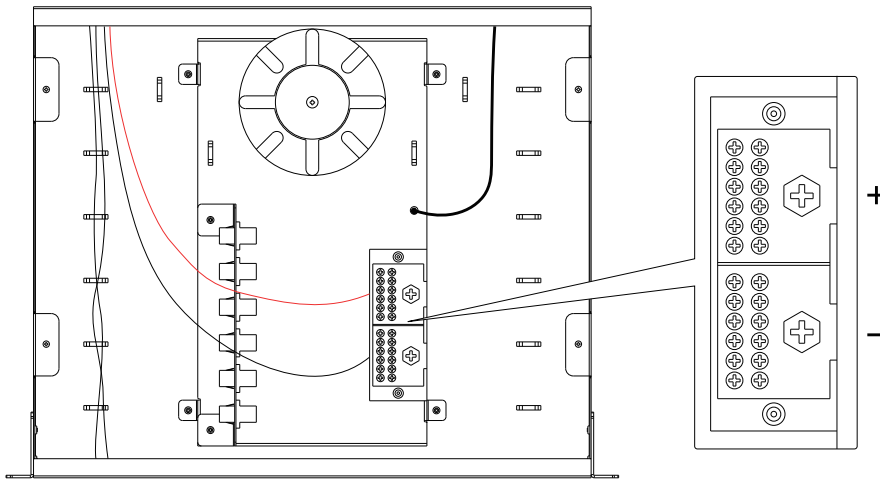

Figure 4
- b. Match wire polarity with the terminal strip. (Figure 4)